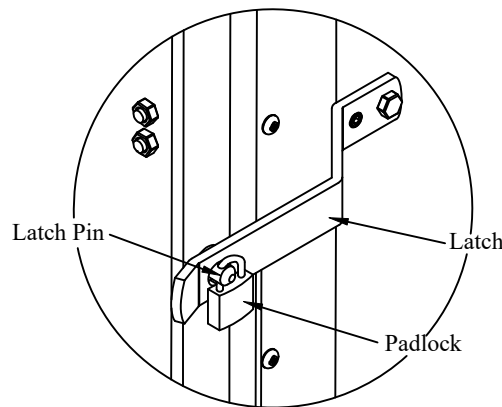

Figure 12: Padlock location.
9. **Lock** the padlock through the hole in the latch pin (Figure 12).